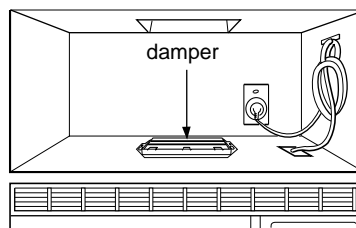

Figure 33
6. Roof vented installation: See Figure 33